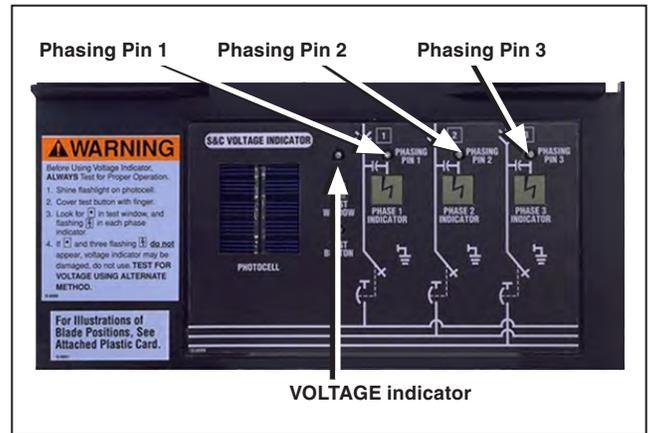

Figure 47. Before performing phasing, thoroughly clean the surface and Phasing pin.
- STEP 1.** Clean the surface and phasing pins of the VOLTAGE indicator of dirt and debris. See Figure 47.
- Place the other test probe on each of the phasing pins, in turn, for the two ways to be phased and measure the phase-to-ground voltage. See Figure 47. Ac voltage range is 5-8 Vac.